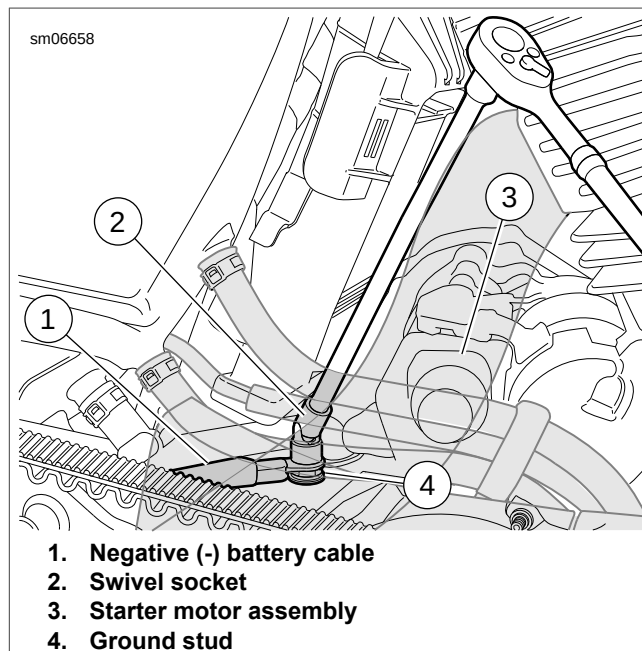

Figure 1-69. Negative (-) Battery Connection
2. See Figure 1-69. Using a swivel socket (2), remove nut that secures the negative (-) battery cable (1) connector to ground stud (4) on crankcase boss behind starter motor assembly (3). Remove cable connector from stud.
- 13. See Figure 1-69. Place negative (-) battery cable connector onto ground stud (4) on crankcase boss behind starter motor assembly (3). Thread nut onto stud.